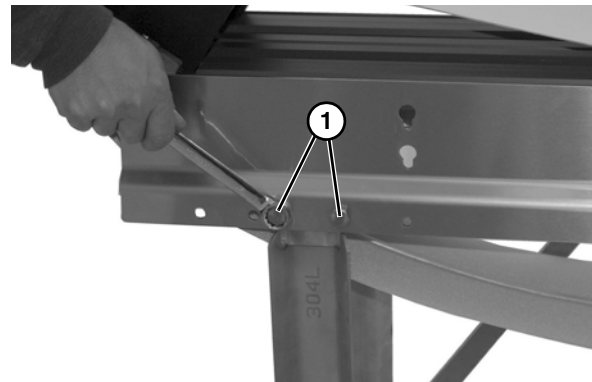

Figure 9
- Attach the stands to the frame with two cap screws (**Figure 9, item 1**).